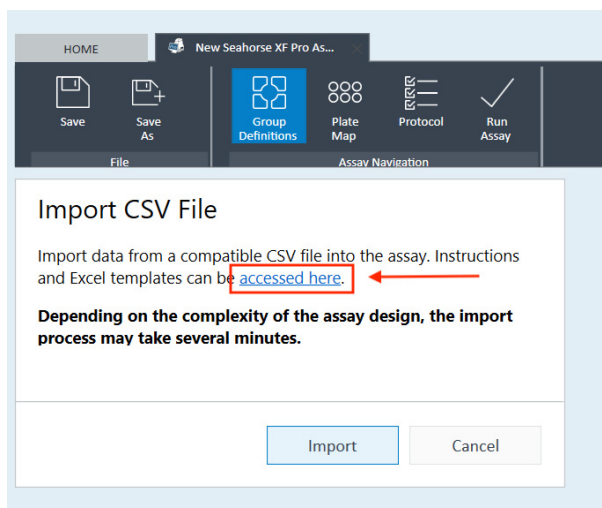

Figure 19. Create new copies of the Excel import template using the red outlined link.
- 4 Create a blank copy of the Agilent-Seahorse-XF-Pro-Assay-Import-Template.xlsx file from CSV Import view by clicking the link pictured in **Figure 19**.